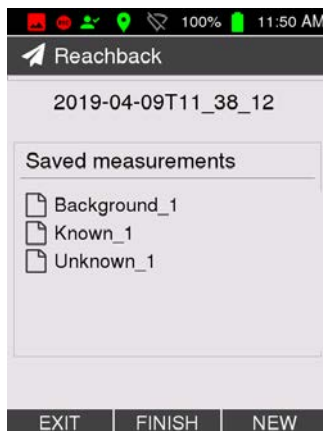

Figure 89: Collected measurements
6. Add more measurements ad libitum (Fig. 89, p. 87).